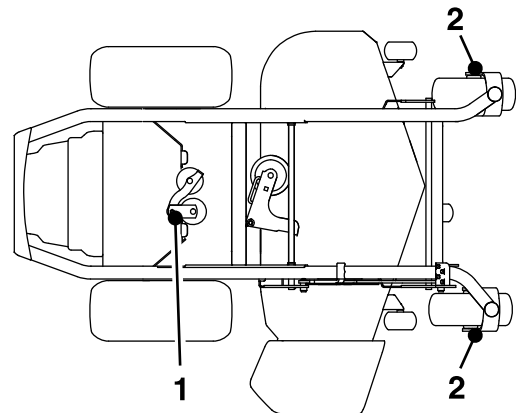

Figure 40
4. Grease the pump idler-pulley pivot with 1 or 2 pumps of grease (Figure 40).
5. Grease the front caster axles (Figure 40).